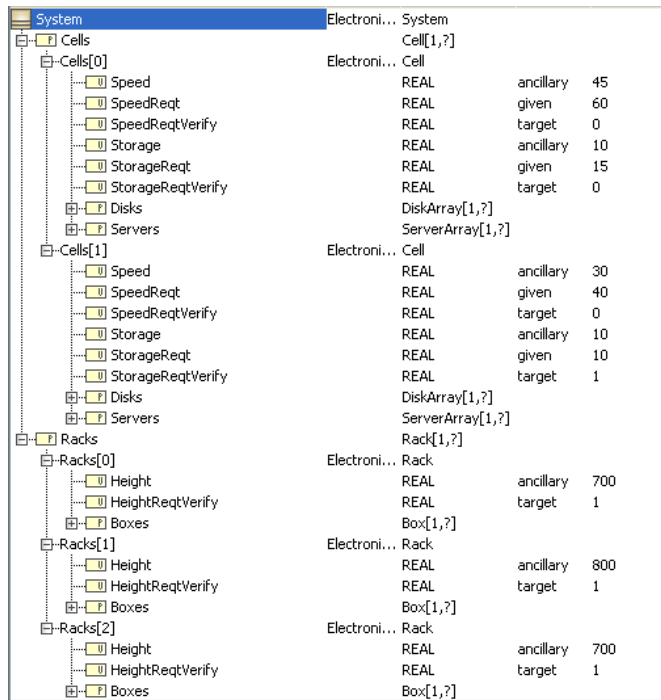

Figure 9.11 Browser for Instance02 after solution
13. Run the parametric solver. See Figure 9.11 for results. Note that no changes had to be made to the parametric diagram or any other part of the schema to run the new parametric model calculations.